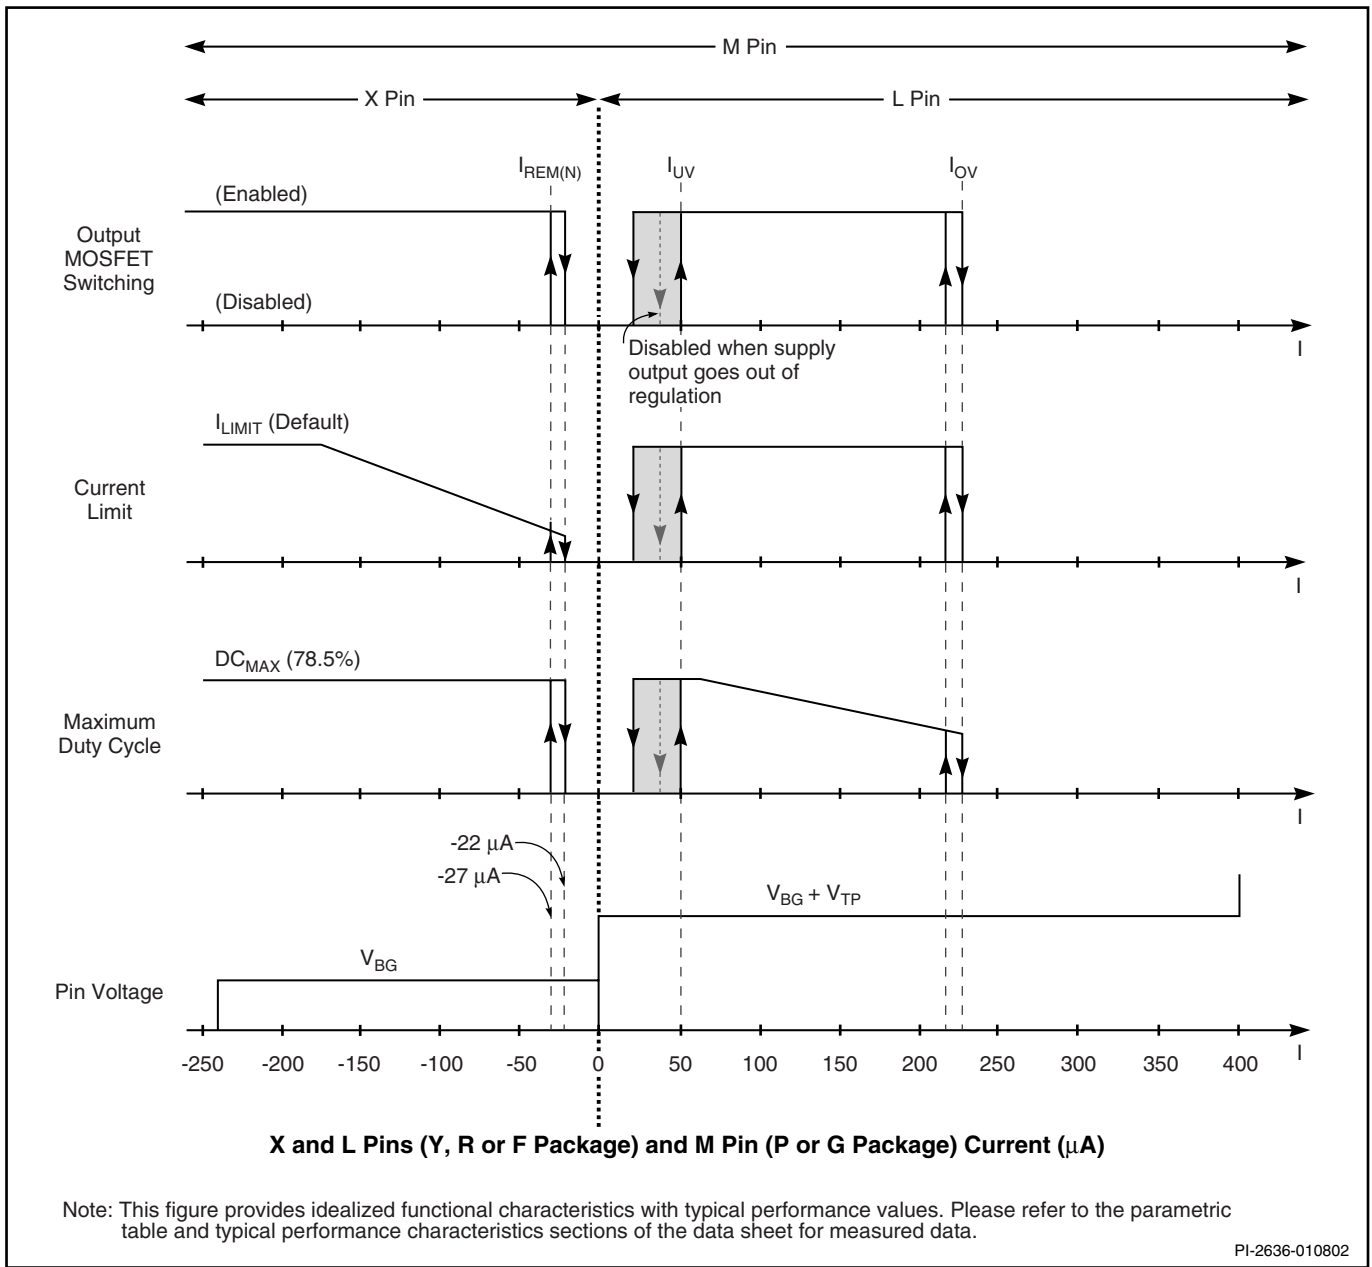
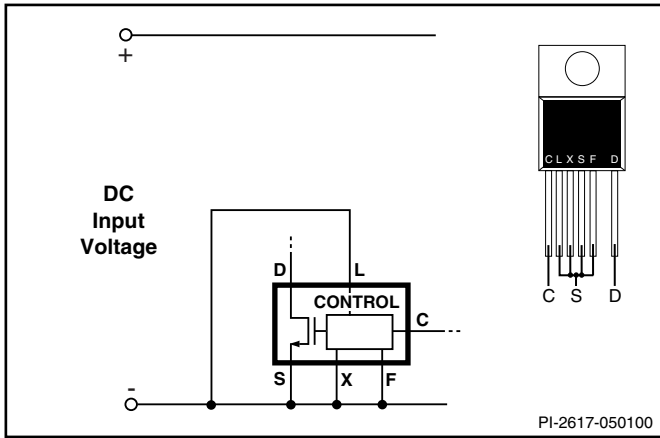
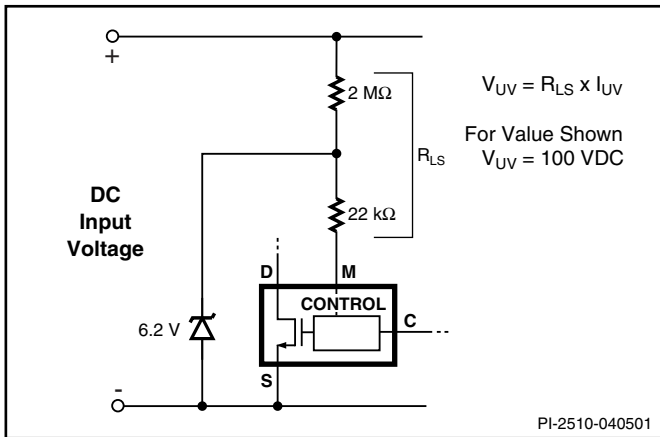
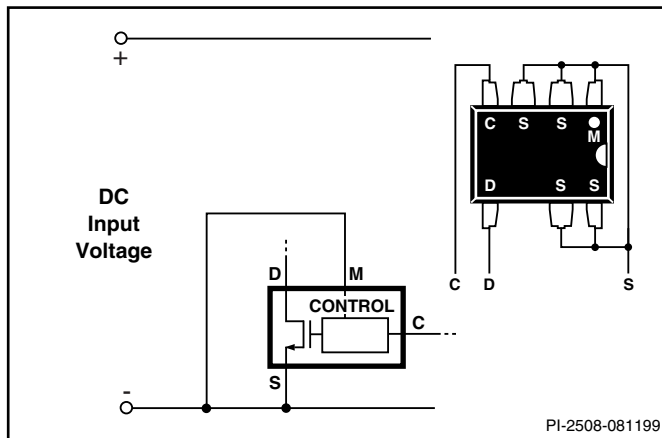

Figure 11. MULTI-FUNCTION (P or G package), LINSE-SENSE, and EXTERNAL CURRENT LIMIT (Y, R or F package) Pin Characteristics.
Figure 16. Three Terminal Operation (LINE-SENSE and EXTERNAL CURRENT LIMIT Features Disabled. FREQUENCY Pin Tied to SOURCE or CONTROL Pin).
Figure 18. Line-Sensing for Under-Voltage Only (Overvoltage Disabled).
Figure 30. Three Terminal Operation (MULTI-FUNCTION Features Disabled).
The LINE-SENSE (L) pin is usually used for line sensing by connecting a resistor from this pin to the rectified DC high voltage bus to implement line overvoltage (OV), under-voltage (UV) and line feed-forward with DC_{MAX} reduction. In this mode, the value of the resistor determines the OV/UV thresholds and the DC_{MAX} is reduced linearly starting from a line voltage above the under-voltage threshold. See Table 2 and Figure 11.
The EXTERNAL CURRENT LIMIT (X) pin is usually used to reduce the current limit externally to a value close to the operating peak current, by connecting the pin to SOURCE through a resistor. This pin can also be used as a remote ON/OFF and a synchronization input in both modes. See Table 2 and Figure 11.
The maximum duty cycle, DC_{MAX} , is set at a default maximum value of 78% (typical). However, by connecting the LINE-SENSE or MULTI-FUNCTION pin (depending on the package) to the rectified DC high voltage bus through a resistor with appropriate value, the maximum duty cycle can be made to decrease from 78% to 38% (typical) as shown in Figure 11 when input line voltage increases (see line feed forward with DC_{MAX} reduction).
The same resistor used for UV also sets an overvoltage threshold which, once exceeded, will force *TOPSwitch-GX* output into off-state. The ratio of OV and UV thresholds is preset at 4.5 as can be seen in Figure 11. When the MOSFET is off, the rectified DC high voltage surge capability is increased to the voltage rating of the MOSFET (700 V), due to the absence of the reflected voltage and leakage spikes on the drain. A small amount of hysteresis is provided on the OV threshold to prevent noise triggering. The OV feature can be disabled independent of the UV feature as shown in Figures 18 and 32.
feature, the maximum duty cycle DC_{MAX} is also reduced from 78% (typical) at a voltage slightly higher than the UV threshold to 30% (typical) at the OV threshold (see Figure 11). Limiting DC_{MAX} at higher line voltages helps prevent transformer saturation due to large load transients in forward converter applications. DC_{MAX} of 38% at the OV threshold was chosen to ensure that the power capability of the *TOPSwitch-GX* is not restricted by this feature under normal operation.
TOPSwitch-GX can be turned on or off by controlling the current into the LINE-SENSE pin or out from the EXTERNAL CURRENT LIMIT pin (Y, R or F package) and into or out from the MULTI-FUNCTION pin (P or G package) (see Figure 11). In addition, the LINE-SENSE pin has a 1 V threshold comparator connected at its input. This voltage threshold can also be used to perform remote ON/OFF control. This allows easy implementation of remote ON/OFF control of *TOPSwitch-GX* in several different ways. A transistor or an optocoupler output connected between the EXTERNAL CURRENT LIMIT or LINE-SENSE pins (Y, R or F package) or the MULTI-FUNCTION pin (P or G package) and the SOURCE pin implements this function with “active-on” (Figures 22, 29 and 36) while a transistor or an optocoupler output connected between the LINE-SENSE pin (Y, R or F package) or the MULTI-FUNCTION (P or G package) pin and the CONTROL pin implements the function with “active-off” (Figures 23 and 37).
There are a total of four functions available through the use of the LINE-SENSE pin: OV, UV, line feed-forward with DC_{MAX} reduction, and remote ON/OFF. Connecting the LINE-SENSE pin to the SOURCE pin disables all four functions. The LINE-SENSE pin is typically used for line sensing by connecting a resistor from this pin to the rectified DC high voltage bus to implement OV, UV and DC_{MAX} reduction with line voltage. In this mode, the value of the resistor determines the line OV/UV thresholds, and the DC_{MAX} is reduced linearly with rectified DC high voltage starting from just above the UV threshold. The pin can also be used as a remote ON/OFF and a synchronization input. Refer to Table 2 for possible combinations of the functions with example circuits shown in Figure 16 through Figure 40. A description of specific functions in terms of the LINE-SENSE pin I/V characteristic is shown in Figure 11 (right hand side). The horizontal axis represents LINE-SENSE pin current with positive polarity indicating currents flowing into the pin. The meaning of the vertical axes varies with functions. For those that control the ON/OFF states of the output such as UV, OV and remote ON/OFF, the vertical axis represents the enable/disable states of the output. UV triggers at I_{UV} (+50 μ A typical with 30 μ A hysteresis) and OV triggers at I_{OV} (+225 μ A typical with 8 μ A hysteresis). Between the UV and OV thresholds, the output is enabled. For line feed-forward with
There are two functions available through the use of the EXTERNAL CURRENT LIMIT pin: external current limit and remote ON/OFF. Connecting the EXTERNAL CURRENT LIMIT pin and SOURCE pin disables the two functions. In high efficiency applications, this pin can be used to reduce the current limit externally to a value close to the operating peak current by connecting the pin to the SOURCE pin through a resistor. The pin can also be used for remote ON/OFF. Table 2 shows several possible combinations using this pin. See Figure 11 for a description of the functions where the horizontal axis (left hand side) represents the EXTERNAL CURRENT LIMIT pin current. The meaning of the vertical axes varies with function. For those that control the ON/OFF states of the output such as remote ON/OFF, the vertical axis represents the enable/disable states of the output. For external current limit, the vertical axis represents the magnitude of the I_{LIMIT} . Please see graphs in the Typical Performance Characteristics section for the current limit programming range and the selection of appropriate resistor value.
be used as a remote ON/OFF and a synchronization input in both modes. Please refer to Table 3 for possible combinations of the functions with example circuits shown in Figure 30 through Figure 40. A description of specific functions in terms of the MULTI-FUNCTION pin I/V characteristic is shown in Figure 11. The horizontal axis represents MULTI-FUNCTION pin current with positive polarity indicating currents flowing into the pin. The meaning of the vertical axes varies with functions. For those that control the ON/OFF states of the output such as UV, OV and remote ON/OFF, the vertical axis represents the enable/disable states of the output. UV triggers at I_{UV}